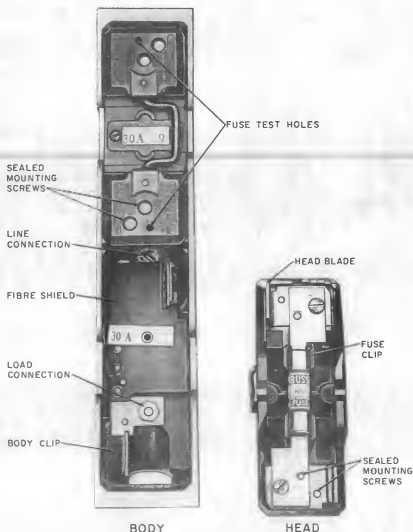

Fig. 1—30-Ampere SAFTOFUSE Unit—Assembly Details
- (c) The head blades and the body clips of SAFTOFUSE units shown in Fig. 1, or other arrangements where contact area cannot be checked readily, have no contact area requirement, but shall have a reasonably tight fit sufficient to carry the current for the particular installation without excessive heating.
3.08 SAFTOFUSE units are provided with fuse test holes as shown in Fig. 1. This permits testing of the fuse, without removing the head, by connecting the lead to the line and inserting the test picks of a KS-14510, L1, volt-ohm-milliammeter through the dead front or head and into the test fuse holes. A full-rated voltage reading indicates the fuse is open. A continuity reading indicates the fuse is good.